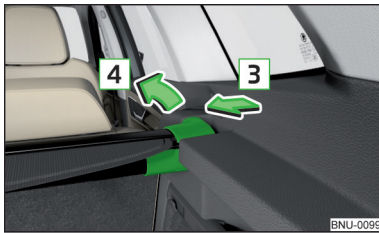

Fig. 147
- › Press on the side of the cross bar in the direction of arrow **3** and remove the cover in the arrow direction **4** » Fig. 147.